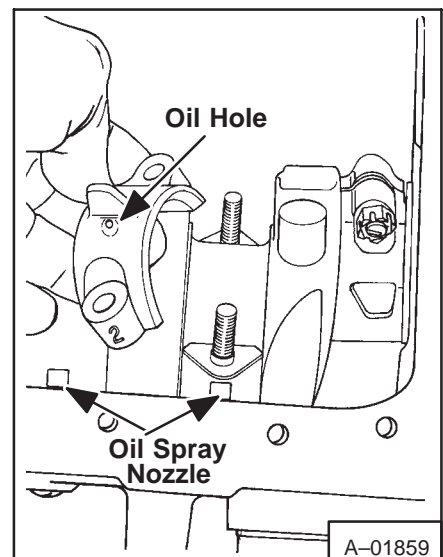

Fig. 7A-27 Install Rod Caps
2. Use a ring compressor and check that the ring gaps are 90 degrees apart, around the piston (Fig. 7A-28).